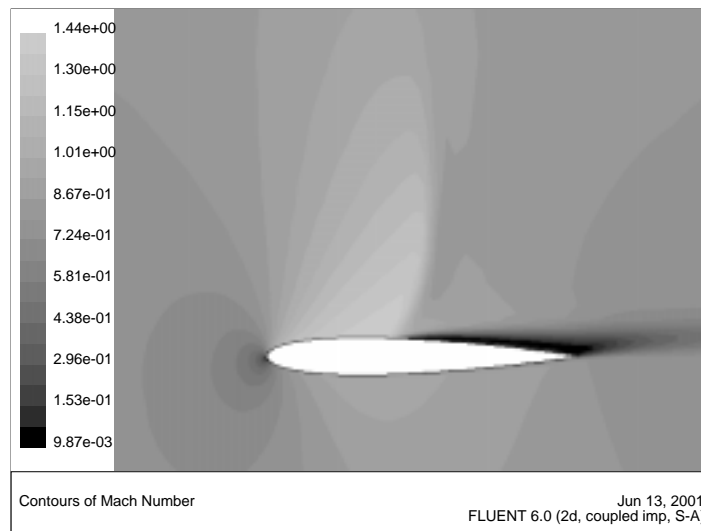

Figure 3.13: Contour Plot of Mach Number
2. Display filled contours of Mach number (Figure 3.13).